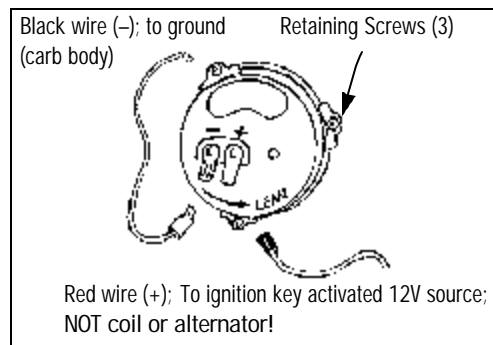

Figure 7- Choke Wire Installation
- On electric choke models (See Fig. 7), remove one choke housing retaining screw and install eyelet end of choke ground wire (black) to choke housing and reinstall screw. Connect clip end of choke ground wire to negative (-) spade terminal on choke housing.
- Connect manual choke cable to the provided lever attachment point and cable mounting bracket (See Fig. 9) (manual choke models). Electric choke models connect red choke wire to 12 volt + source that is activated by ignition switch (Not coil or alternator, see Figure 7).